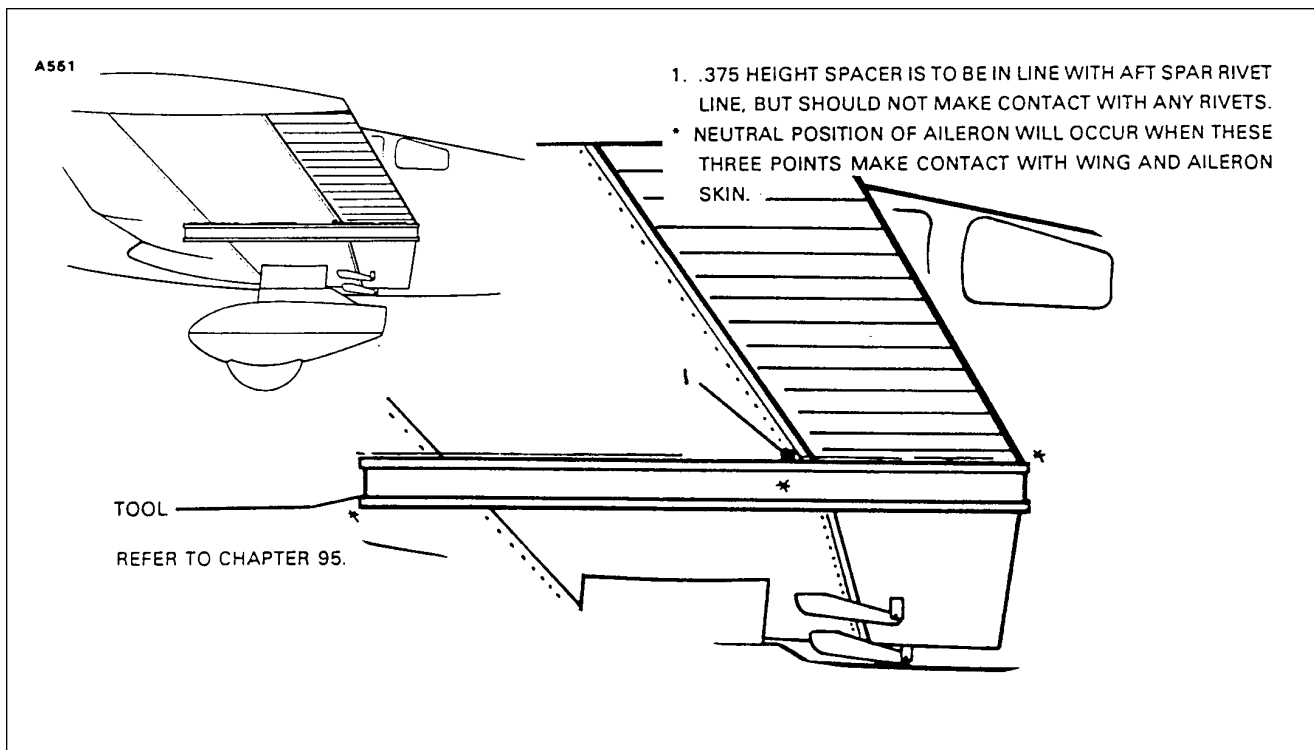

Figure 27-6. Aileron Rigging Tool
- b. Place an aileron rigging tool as shown in figure 27-6 against underside of wing and aileron as close as possible to inboard end of aileron without contacting any rivets. The tool must be positioned parallel with wing ribs, with aft end of tool even with trailing edge of aileron. (This tool can be fabricated from dimensions given in chapter 95.)